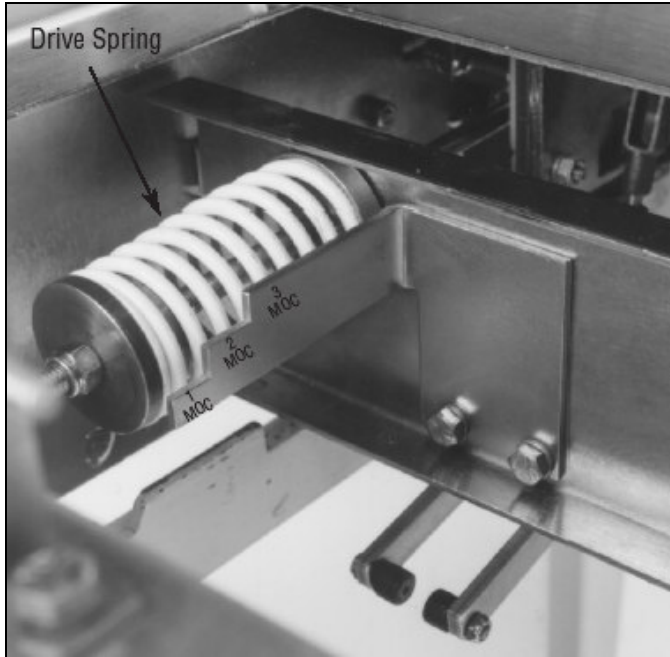

Figure 4-1 MOC driving spring.
Step 2: Locate the MOC drive spring (Figure 4-1). It is located in the left lower portion of the breaker as viewed from the top rear of the breaker with the phase barriers removed.